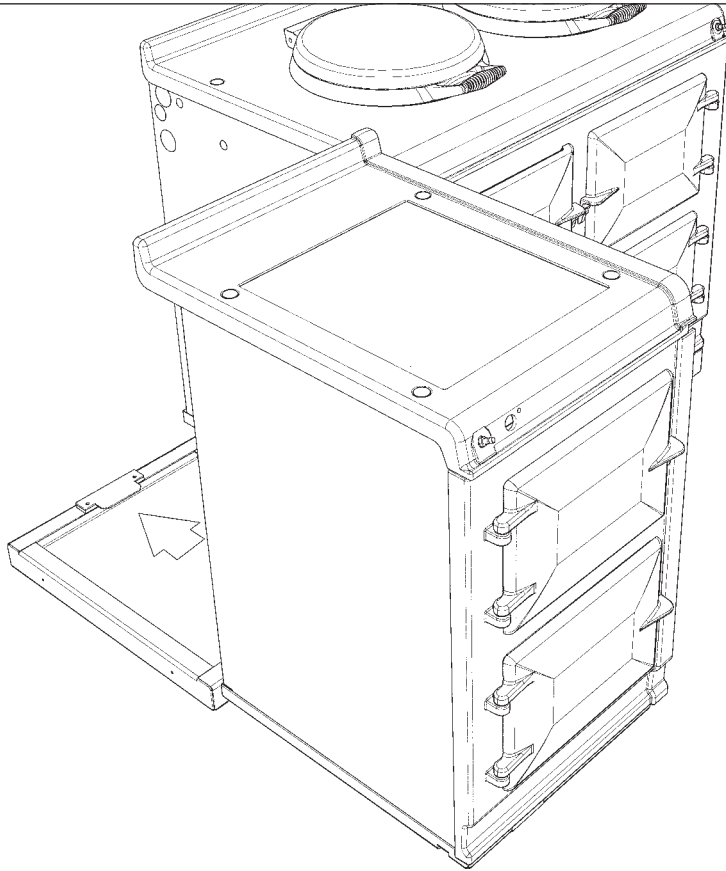

Fig. 17.7
6. Slide hotcupboard onto plinth until rear tongue bracket engages fully into rear of base slot, (**Fig. 17.7**). Ensure the appliance is aligned squarely with the plinth then proceed to engage the front tongue bracket into the slot on the underside of the base plate. Once satisfied that the front tongue bracket is engaged fully lock it into place by tightening the two M6 screws fully. Ensure that the electrical cable does not come into contact with oven vent pipe from the AGA R7.